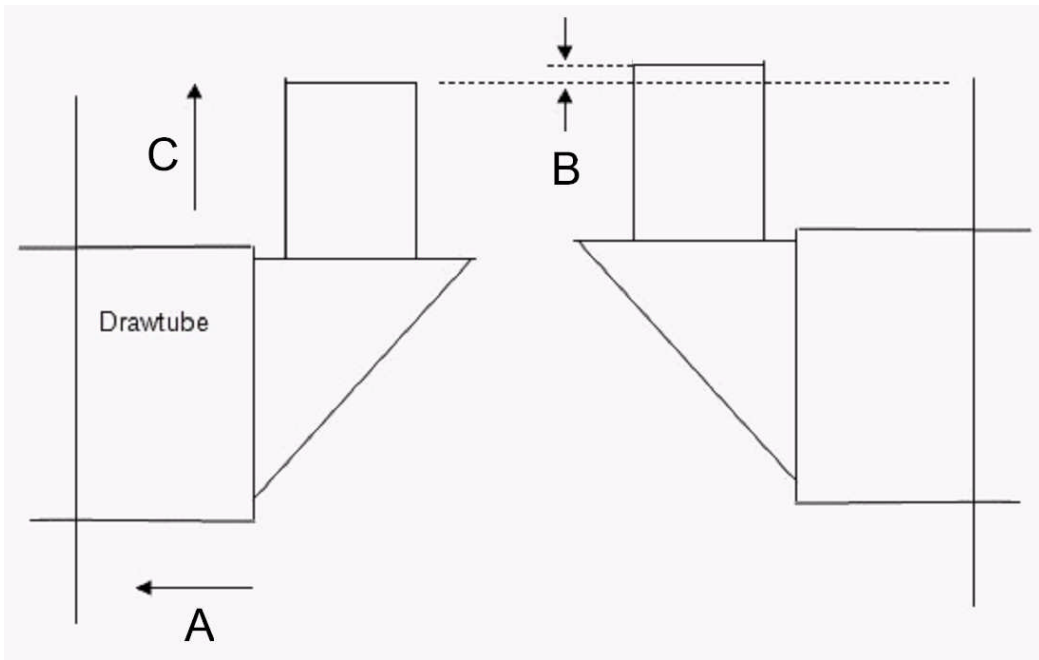

Figure 22
During the course of using the eye-spacing motors, they may become unsynchronized in their positions and need to be reset. It will appear obvious that even when the two eyepieces are in focus they will be sitting at different heights. Every effort is made to keep the eyepieces centered between the two optical tubes and even in height but occasionally they may be slightly off. In the example below (Figure 22), both images are in focus but the left eyepiece is lower than the one on the right. You can raise the left eyepiece (or focus point) by pushing the focuser drawtube inwards towards the secondary mirror (A), roughly the same distance as the difference in eyepiece height (B). This will move the focus point upwards (C) so that you will have to raise the focuser upwards so the eyepiece is at the same height as the other one. You will then have to reset the eye spacing because moving the drawtube inwards has increased the distance between the two eyepieces. After resetting the eye spacing you can then refocus each eyepiece.